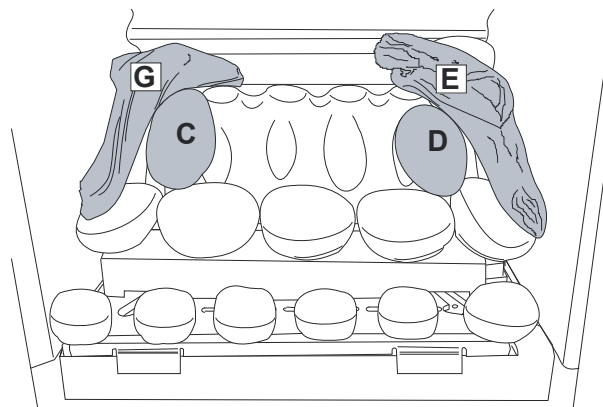

Figure 35
5. Place the **G** and **E** driftwood pieces as shown in **Figure 35** then place the **C** and **D** pebbles (**G** driftwood is not marked).